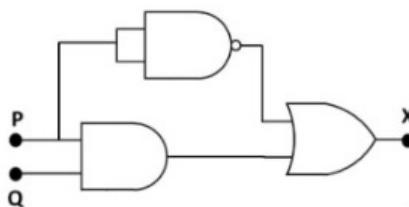

Fig. 3.15
- (A) $x + z + xy$
- (B) $(x + y)(x + z)$
- (C) $x + xy + yz$
- (D) $x + xz + xy$
28. Which one of the following options is CORRECT for the given circuit in Fig. 3.15? (GATE PHYSICS 2023)